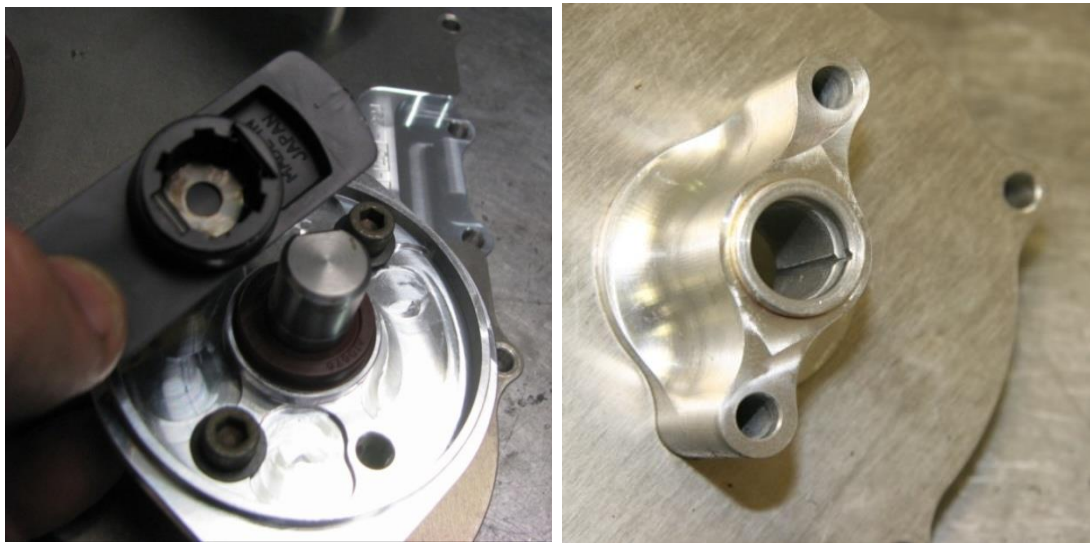

Figure 153 – New Distributor Shaft Bush Fitted – nopic x 1
- Glue the distributor rotors to the shafts using 5-minute Araldite mixed with a suitable filler (such as cotton flock) as shown in Figure 153.
- New bushes must be fitted to the distributor housings as shown in Figure 153. Distributor posts must be generously lubricated with Nulon L90 or grease.